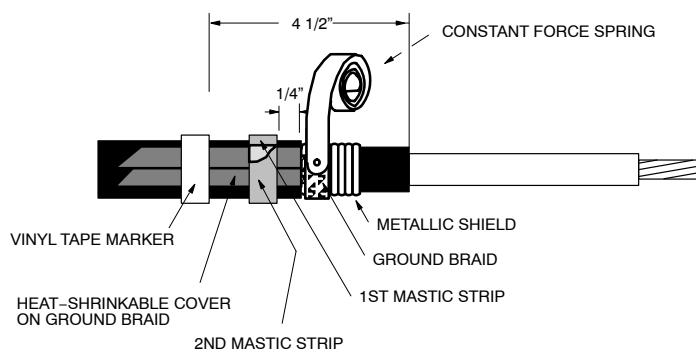

FIGURE 4A
4. Wrap the ground braid around the metallic shield and secure in place with the constant force spring. Tighten the spring after wrapping the final turn. Position the finish ground braid tail over the cable jacket. NOTE: The finish tail of the ground braid does not have to be on top of the first tail. See Figure 4A.
5. Select the second mastic strip from the kit and remove the white release liners. Apply the second mastic strip over the previously applied mastic. If ground braids overlap on cable jacket be sure to apply mastic between the braids. Secure ground braids to cable jacket 4–1/2" from cable semi-con edge using vinyl tape. Apply tape directly over previously applied marker tape. See Figure 4A.